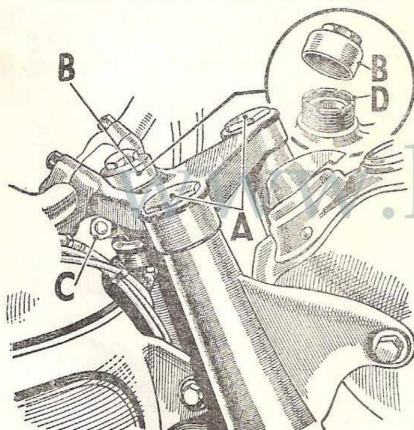

Fig. 19. Front fork and steering head.
1. Remove the hexagon headed cap (A, Fig. 19) at the top of each fork leg. A special spanner is provided in the kit for this purpose.